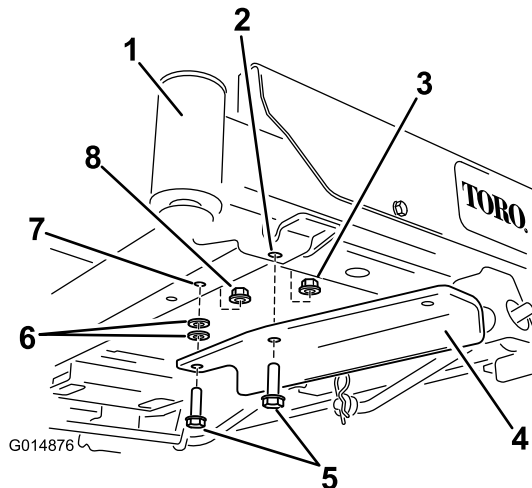

Figure 6
- For machines without a foot assist lift pedal: secure the bracket using two bolts (3/8 x 1-1/4 inches), two washers and two lock nuts (3/8 inch) (Figure 6). One locknut is from loose parts and the other is reused from earlier removal.